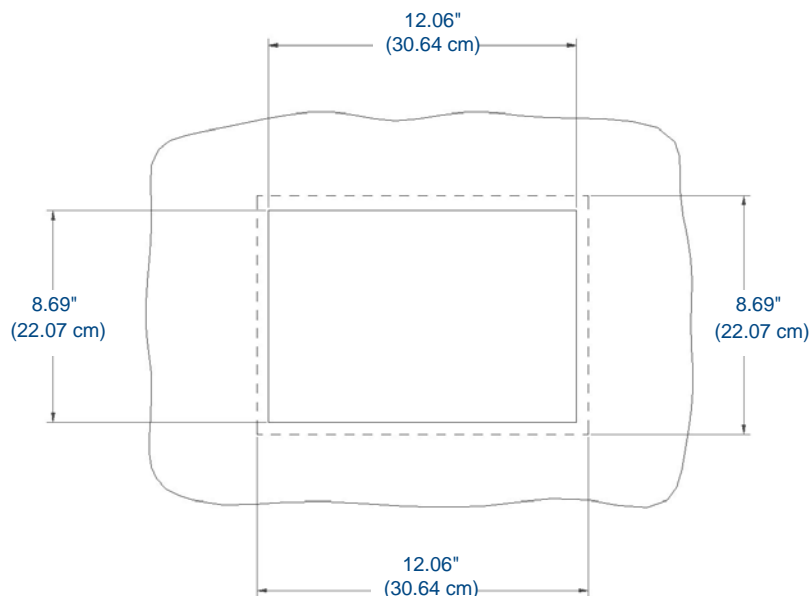

FIG. 13 Recommended cutout for the MVP-WDS-9 plastic back box
1. Cut a hole into the wall or surface intended to hold the back box. The back box is sized 12 1/16 inches (30.64 cm) long and 8 11/16 inches (22.07 cm) high, so the hole should be at least 1/4” (6.4mm) smaller in each dimension (FIG. 13). Use the included MVP-WDS-9 Wall Docking Station template (**68-5967-01**) as an aid for hole placement and measurement.